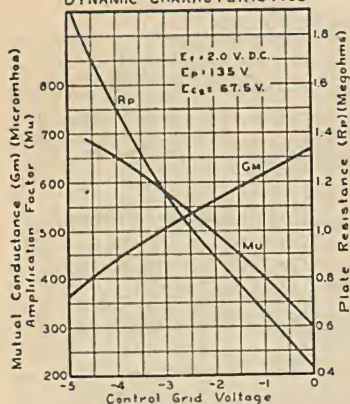

Fig. 17
**Dynamic Characteristics**—Figs. 17 and 18 show the effect of control grid and screen grid voltage (respectively) upon the amplification factor, mutual conductance and plate resistance of the CX-332.